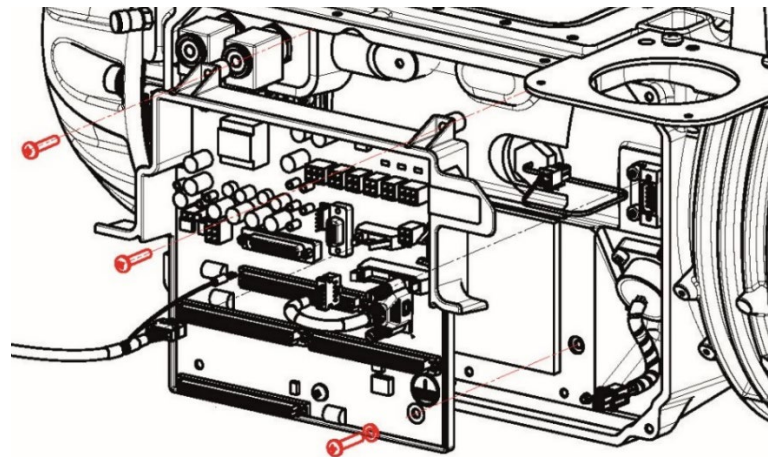

Figure 1– Backplane Fasteners
7. Remove the three (3) screws that secure the Backplane assembly to the compressor housing. Refer to Figure 1 (Backplane Fasteners). Do NOT remove the screw from center bottom or top left of the Backplane circuit board.